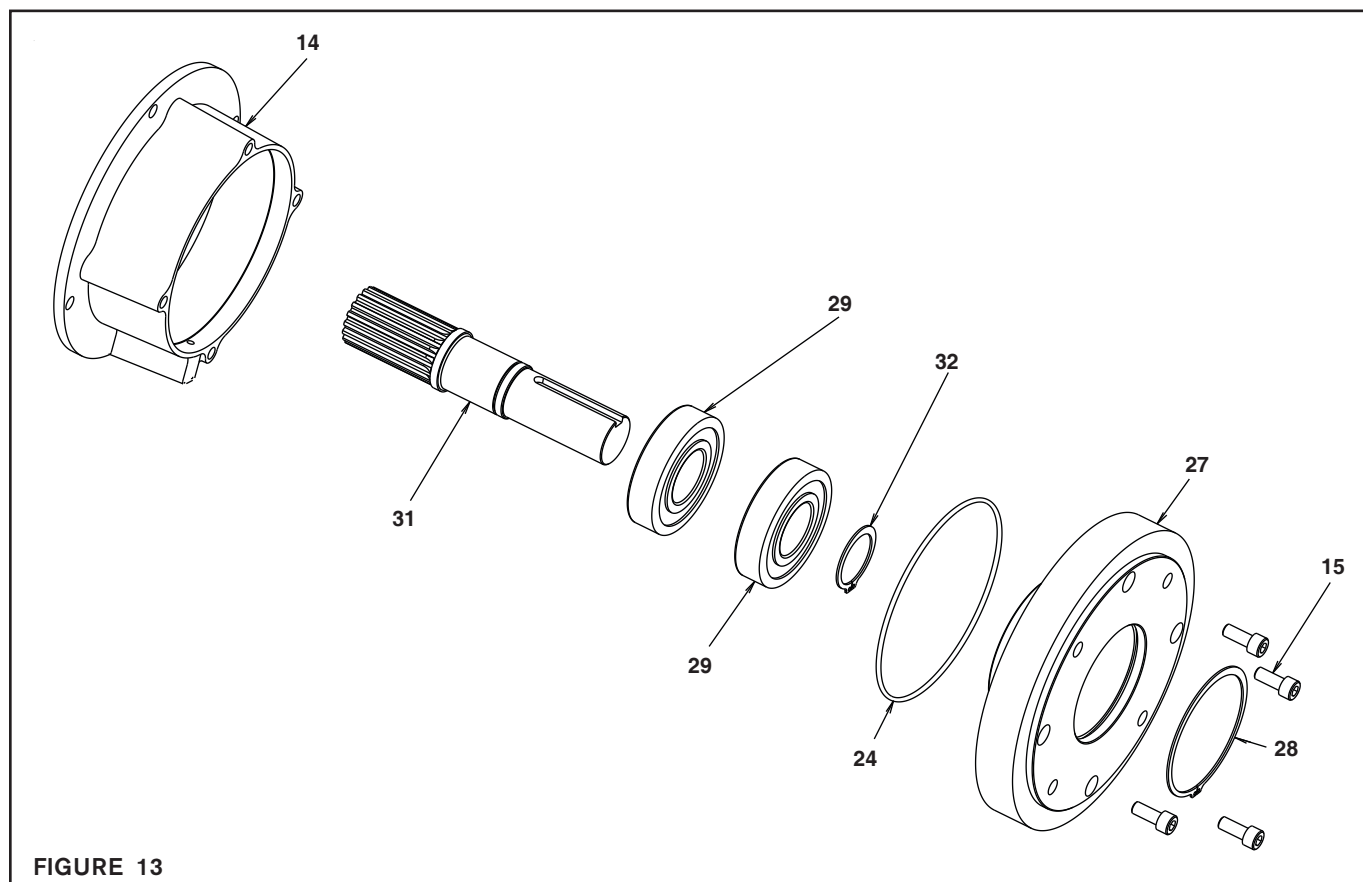

FIGURE 13
Refer to Figure 13.
7. Reinstall the first Retaining Ring (Item 37) on Stub Shaft (Item 5) (See Figure 13).